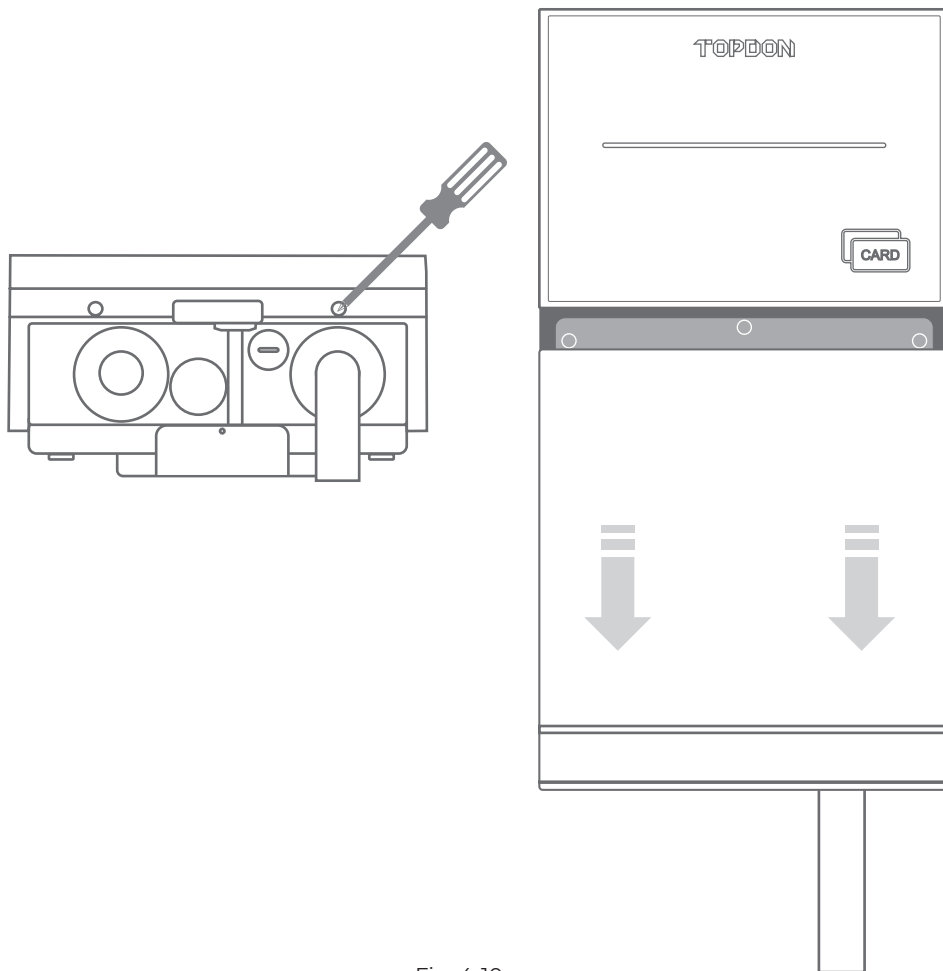

Fig. 4-10
1. Unscrew the two screws on the bottom of the front cover with a Phillips screwdriver, and slide the cover down to remove it. (See Fig. 4-10)